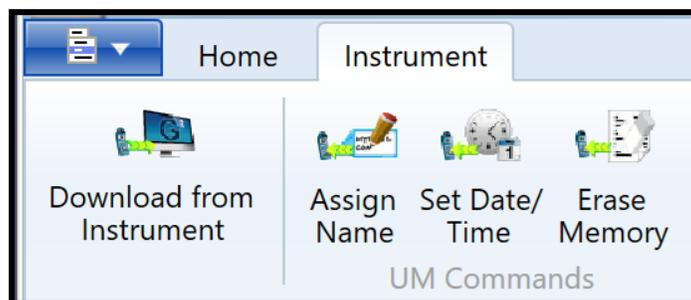

Figure 9
- Guardian² Instrument Menu (Figure 9)